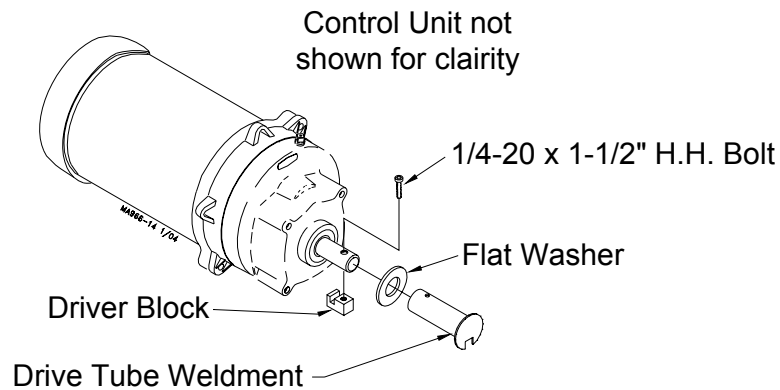

Figure 32. Auger Driver Components
5. Slide the Drive Tube and flat washer over the output shaft on the Power Unit, as shown in **Figure 32**.
9. At the control unit, after clamping the cable to the spring, cut the cable about 8" to 10" (200 to 250 mm) longer than necessary. Feed the end of the cable through the center of the spring, around the first insulator on the control unit, and clamp the cable using the cable clamp supplied with the control unit. See Figure 32.
10. Install the wire form on the control unit insulators. Be sure the Guard snaps into the retainers molded into the insulators. See Figure 32.